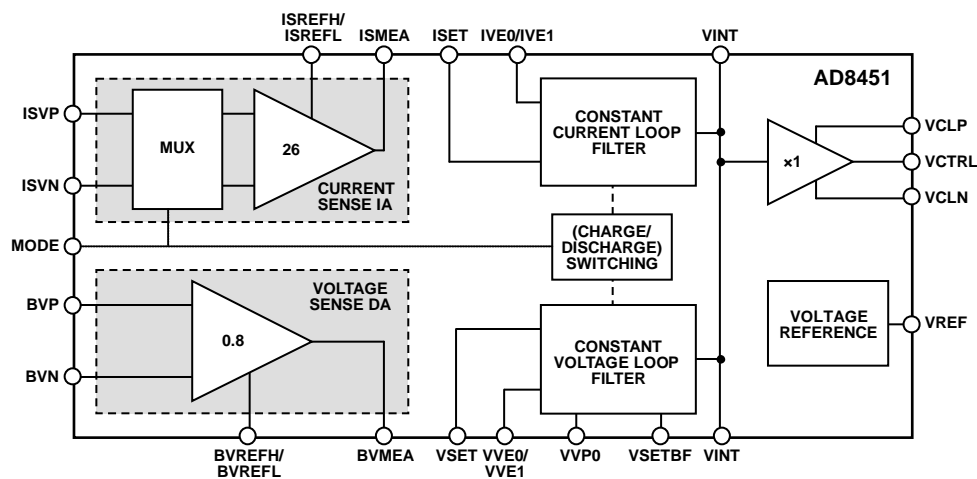

Figure 1.
The AD8451 is a precision analog front end and controller for testing and monitoring battery cells. A precision fixed gain instrumentation amplifier (IA) measures the battery charge/discharge current, and a fixed gain difference amplifier (DA) measures the battery voltage (see Figure 1). Internal laser trimmed resistor networks set the gains for the IA and the DA, optimizing the performance of the AD8451 over the rated temperature range. The IA gain is 26 V/V and the DA gain is 0.8 V/V.